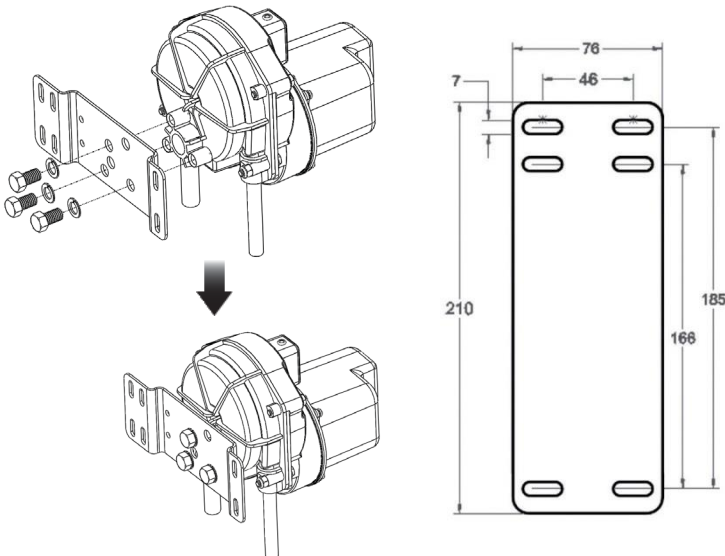

Fig B3 - Mounting plate drilling dimensions
- iii) Mark out the fixing pattern from the drive base plate and drill appropriate sized pilot holes into the mounting structure (Fig B3). The mounting holes are suitable for ¼in or 6mm fasteners.